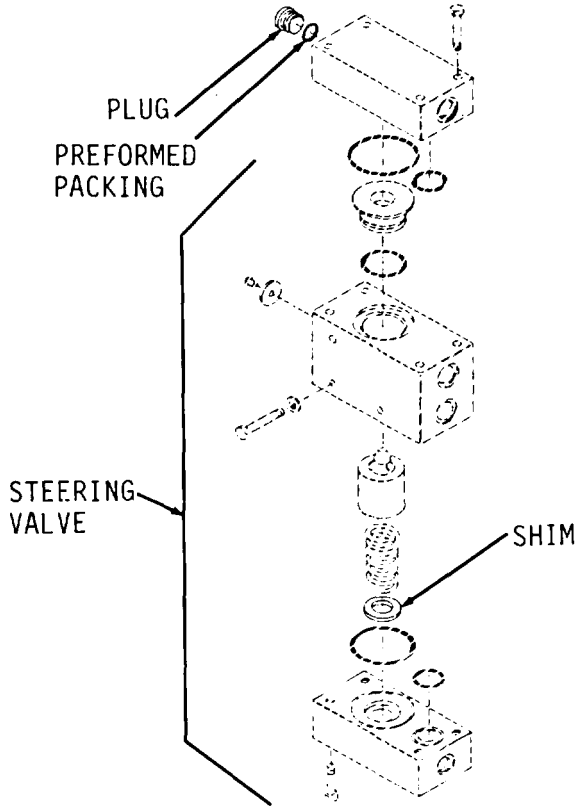

Figure 8-2.
Step 2. Check pressure at steering valve. Remove plug and preformed packing from relief valve (Figure 8-2). Install multi-range pressure gage. Start engine. Hydraulic oil must be 145 to 155 degrees F. Increase to 1500 rpm. Turn steering wheel to right three turns from straight ahead position or until wheels hit stops. Refer to TM 5-3805-261-10. Pressure gage should read 1850 to 1900 psi.